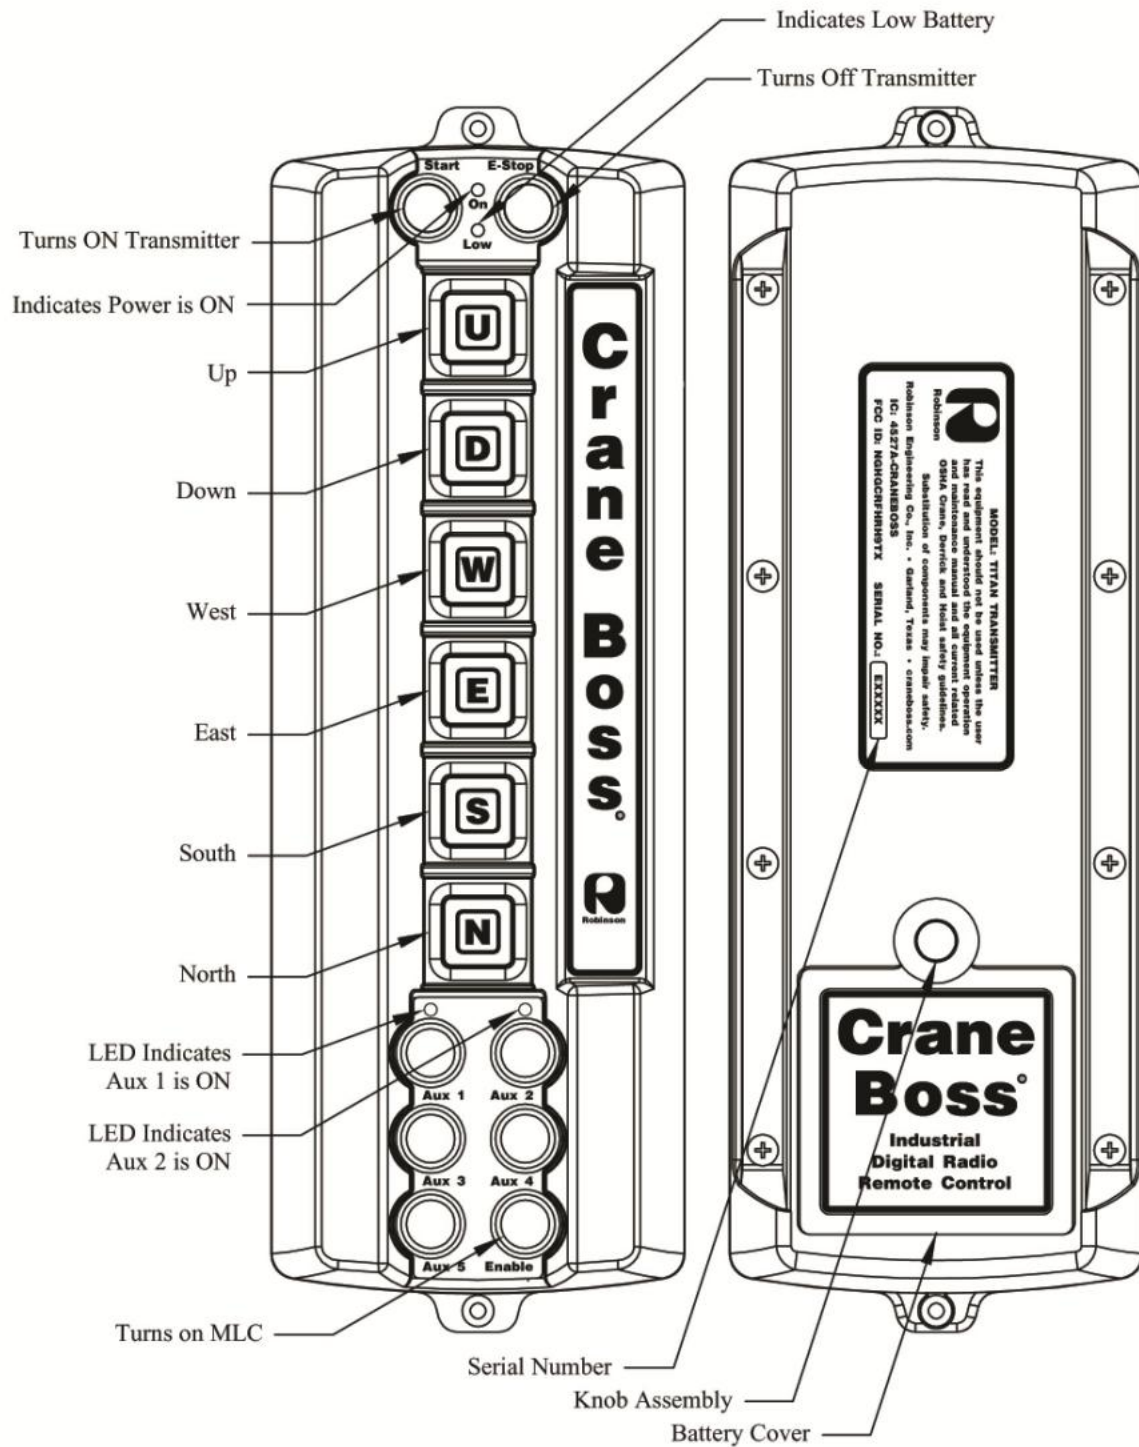

Fig 5-1(T5): Transmitter External Components
- 5.2.2 Transmitter - (See Block Diagram, Transmitter, Fig. 3-1(T), and Transmitter Components Fig. 5-1(T5)).